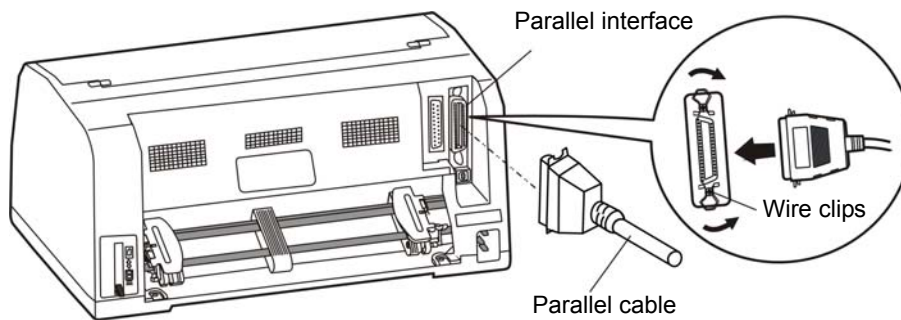

Figure 2-10 Connecting to the Parallel interface
Your printer contains parallel interface, USB interface, Ethernet interface or serial interface. (According to the specific interface standard) Connect the printer to your computer with the correct cable. (As Figure 2-10, 2-11, 2-12 and 2-13 shown)
1. Turn off both the computer and the printer. Plug the parallel cable securely into the printer's parallel interface. Squeeze the wire clips together until they lock in place on either side. (As shown in Figure 2-10)